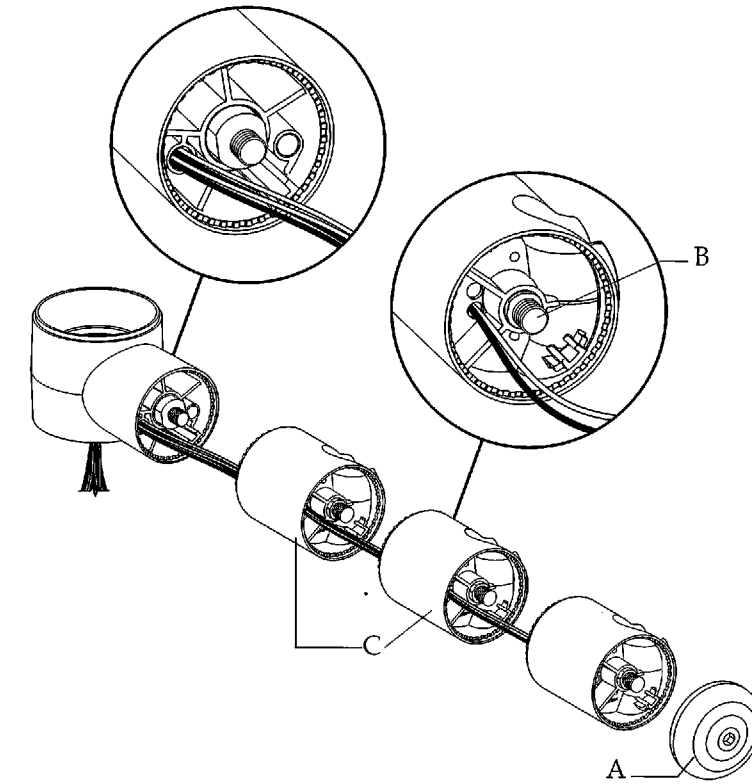

Figure 105. Adding a new holder to an electric holder assembly. (A) end cap; (B) axles; (C) holders
1. Route the new wires through the holder(s) before attaching the holders together as shown in Figure 105.